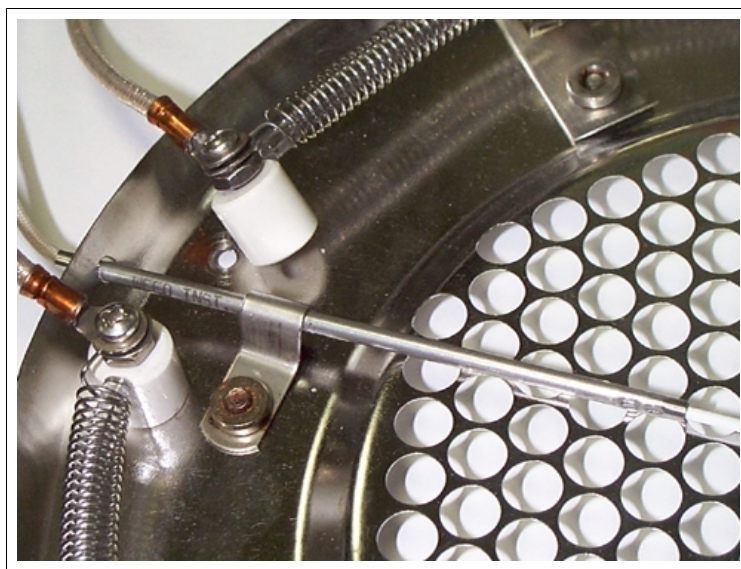

Figure 4.1-8. Clamp for Oven Heater Temperature Sensor
2. A single clamp attaches the oven heater temperature sensor. This clamp is located on the back of the oven heater baffle (Figure 4.1-8). Loosen the clamp.
Figure 4.1-8 shows the clamp that attaches the oven heater temperature sensor to the oven heater baffle.